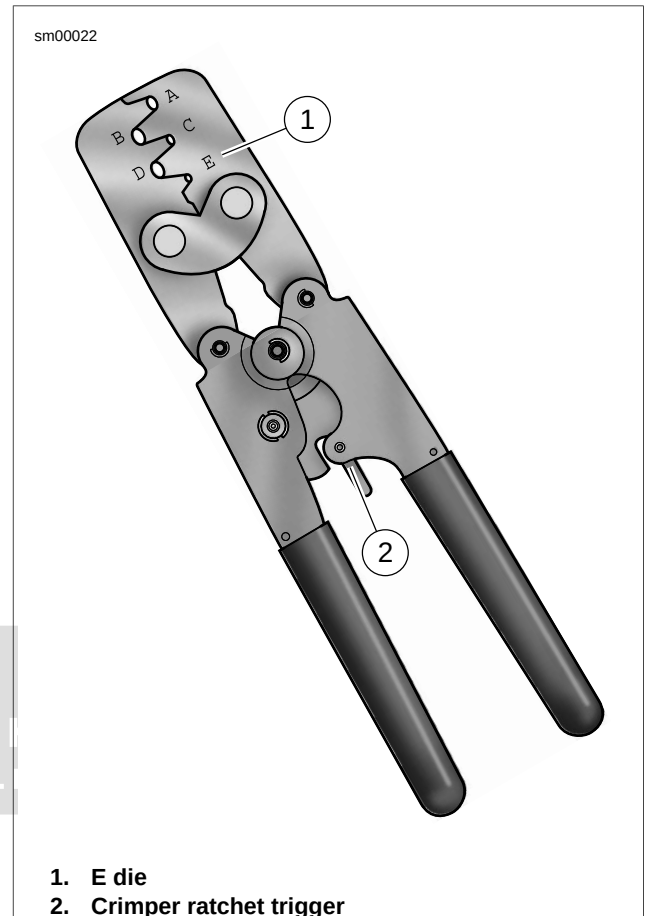

Figure A-23. Packard Terminal Crimper (HD-38125-7)
1. See Figure A-23. Compress the handles of PACKARD TERMINAL CRIMPER (Part No. HD-38125-7) until the ratchet (2) automatically opens.